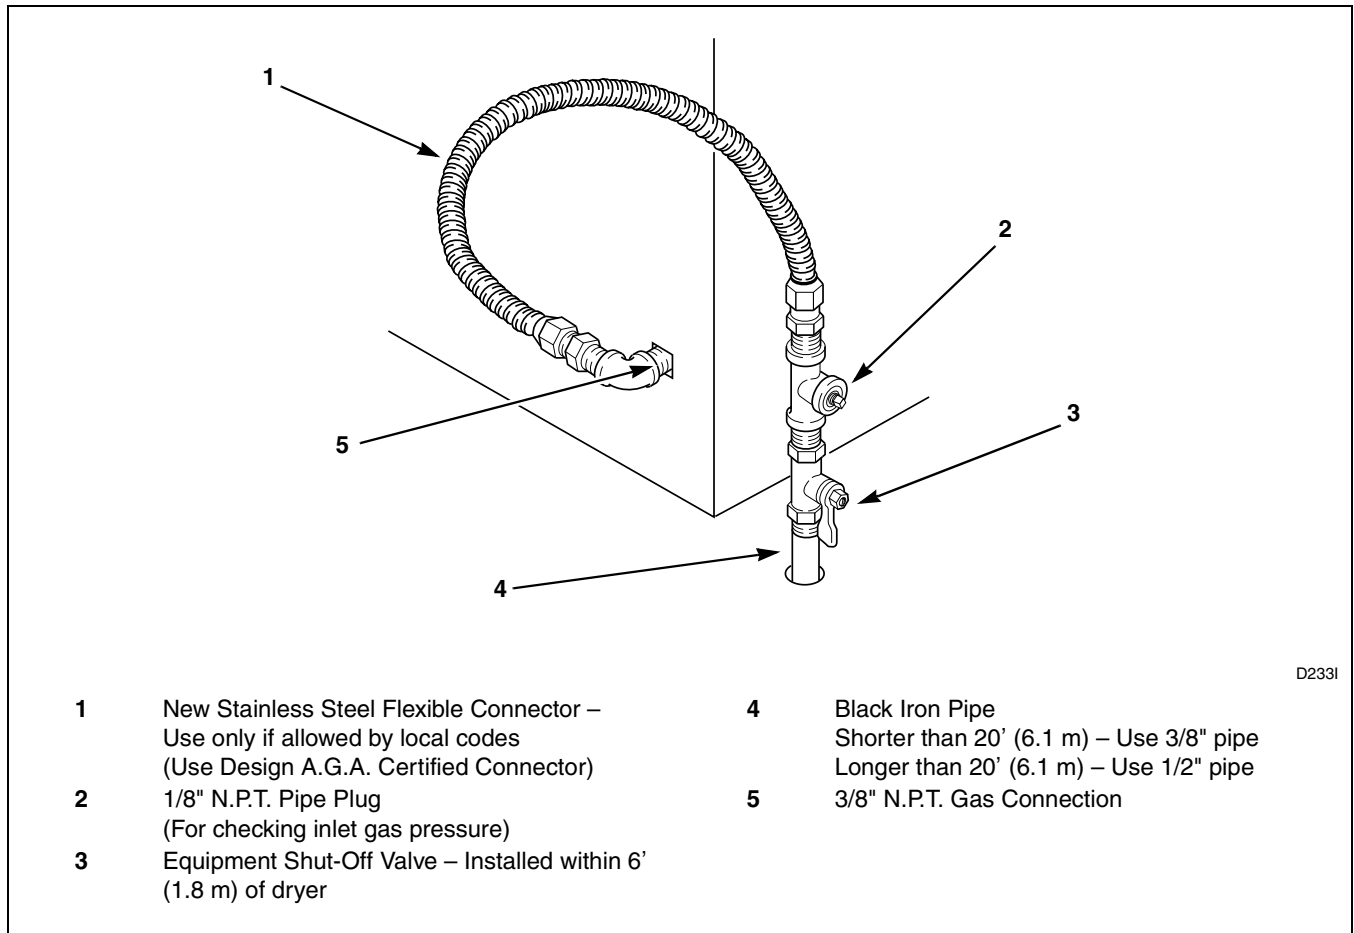

Figure 20
**NOTE:** When connecting to a gas line, an equipment shutoff valve must be installed within 6' (1.8 m) of the dryer. An 1/8" N.P.T. pipe plug must be installed as shown. Refer to *Figure 20*.